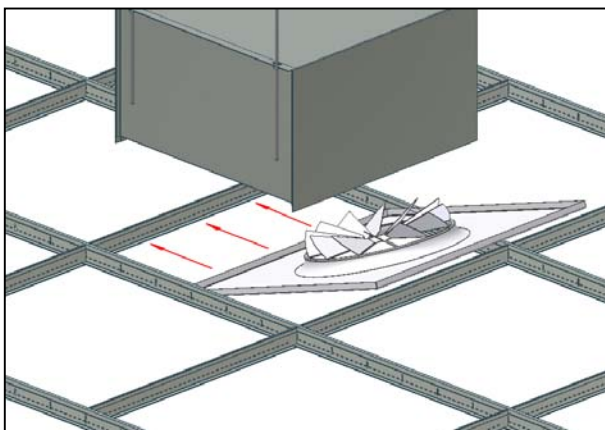

Figure 3: Slide Diffuser into opening
3. Locate one end of the Diffuser into the ceiling opening, and in a sliding motion move it to the far end of the opening (figure 3).